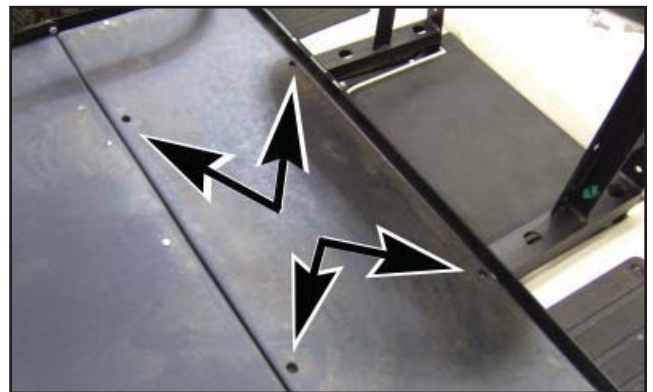

Fig. 4 - Install Deck Bolts
- 4) Place the Folding Deck Assembly (in the closed or folded position) onto the rear of the vehicle, with the hinged portion to the rear, then open the deck out flat in place. Install the mounting hardware but ONLY finger tighten at this time. See Fig. 4.